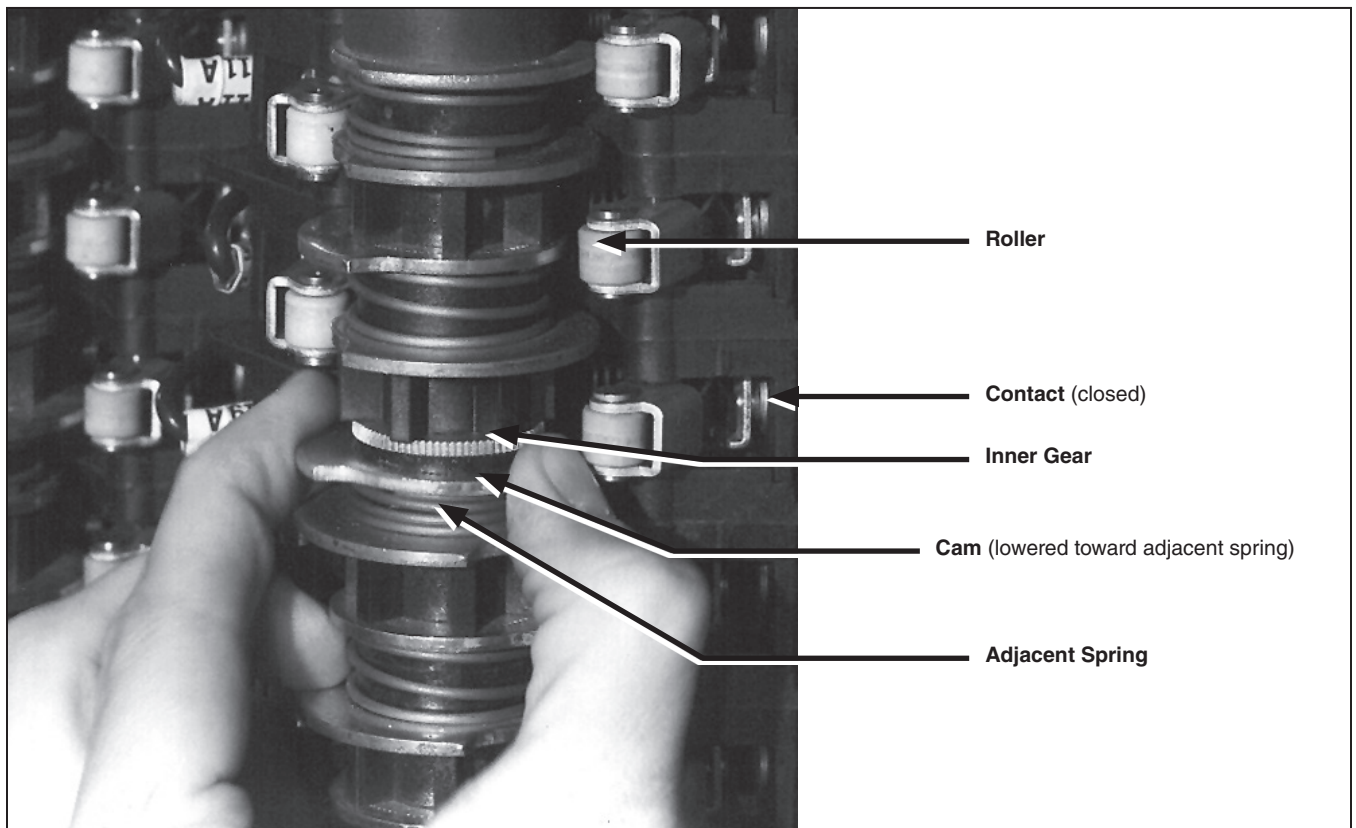

Figure 8. Adjustment of cams on auxiliary switch.
- (a) Raise (or lower) the cam toward its adjacent spring until the cam is separated from the teeth of the inner gear. See Figure 8.